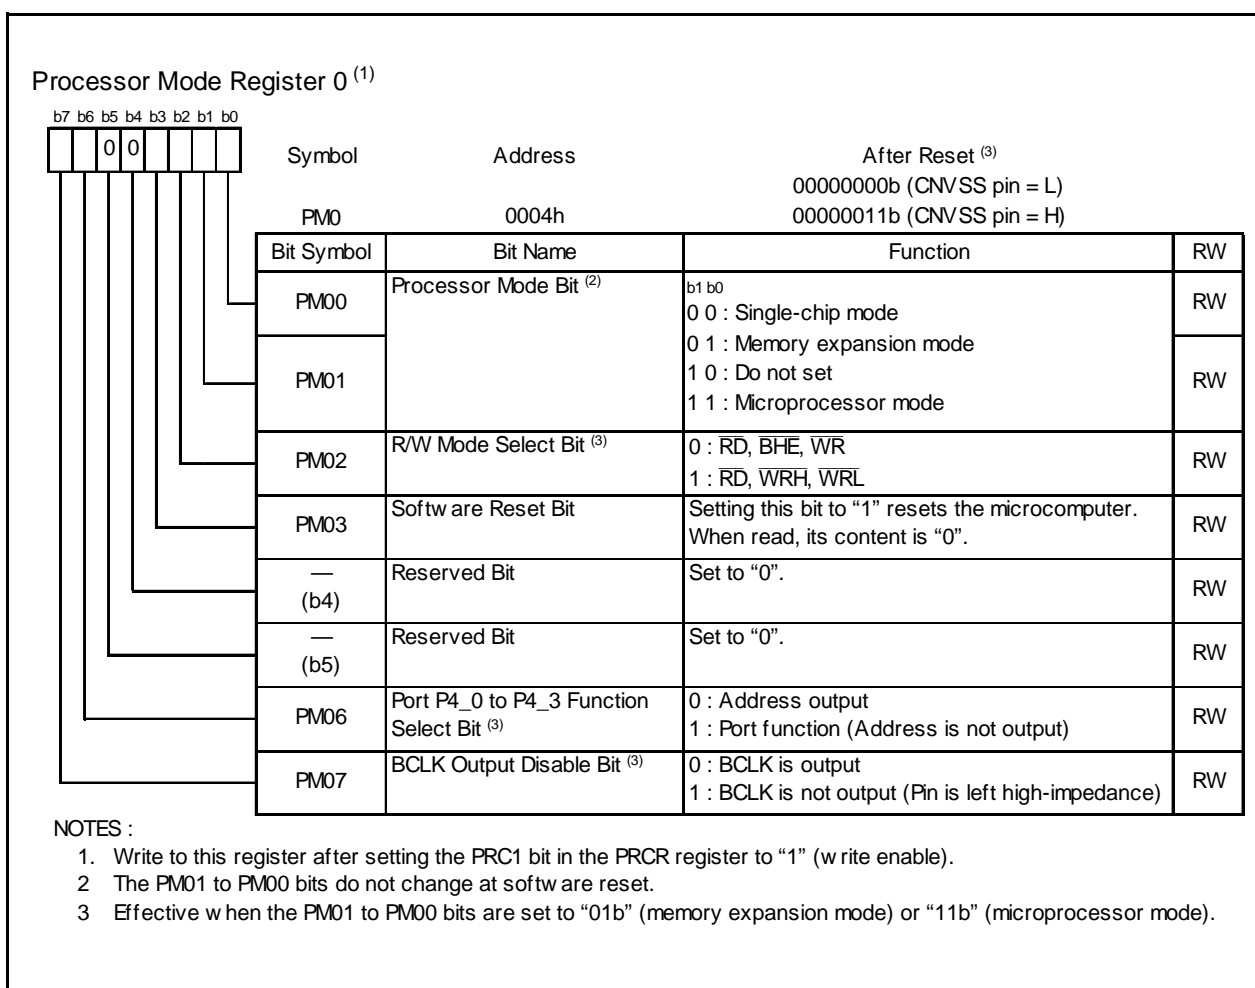

Figure 6.1 PM0 Register
Figures 6.1 and 6.2 show the PM0 Register and PM1 Register (1). Figure 6.4 show the Memory Map in Single Chip Mode.